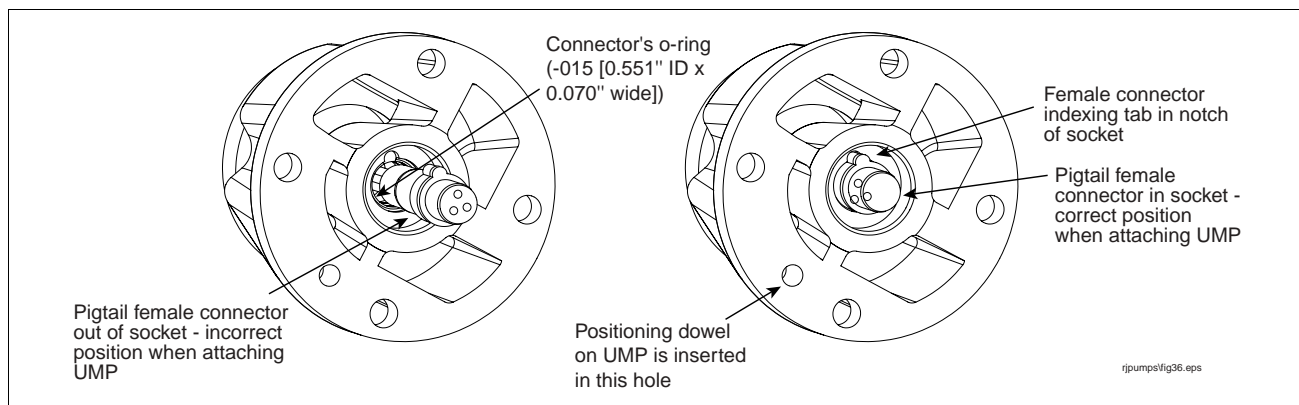

Figure 7. Verifying pigtail's female connector is seated properly
1. Visually inspect the pigtail connector in the end of the discharge head. Be certain the pigtail connector is seated in its socket and its index tab is in the socket's notch (see Figure 7).
3. Align the UMP positioning dowel insert in the proper hole in the discharge head (ref. Figure 7) and push the UMP into position using hand force only. The UMP should be snug against the discharge head prior to installing the UMP retaining bolts.